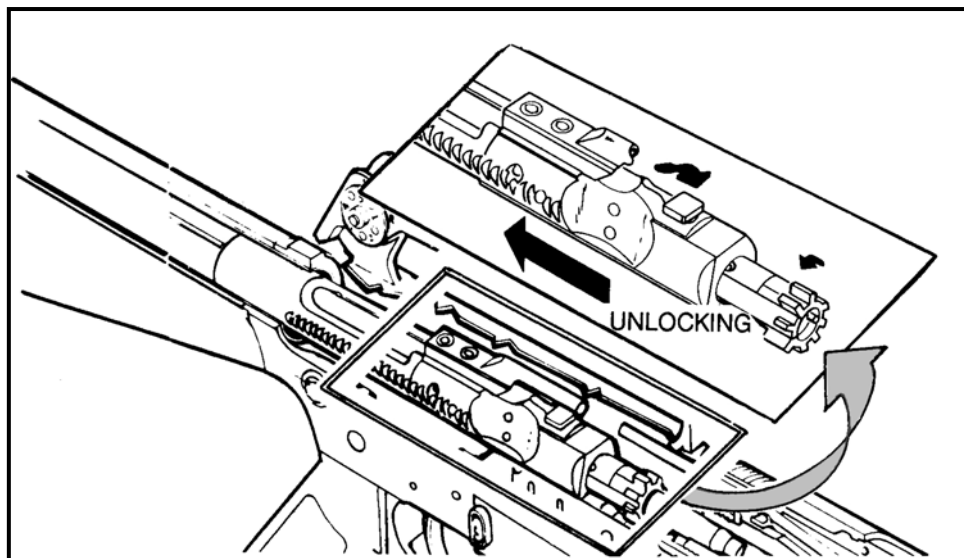

Figure 4-7. Unlocking.
e. **Unlocking** (Figure 4-7). As the bolt carrier moves to the rear, the bolt cam pin follows the path of the cam track (located in the bolt carrier). This action causes the cam pin and bolt assembly to rotate simultaneously until the locking lugs of the bolt are no longer in line behind the locking lugs of the barrel extension.